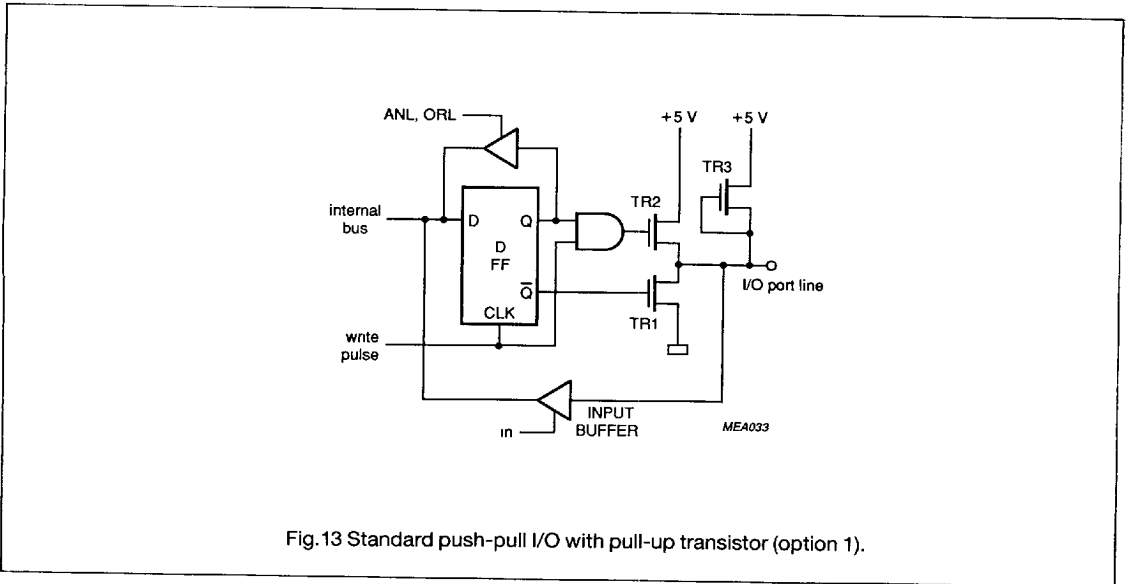

Fig.13 Standard push-pull I/O with pull-up transistor (option 1).
- **Option 1** STANDARD I/O; quasi-bidirectional I/O (see Fig.13) consisting of a push-pull output with a weak pull-up transistor (TR3). If the output latch contains a logic 1, then the port line is pulled up to V_{CC} via TR3. TR3 provides sufficient current for a HIGH level to one TTL input, yet can be pulled LOW by an external TTL or CMOS device, thus allowing the same